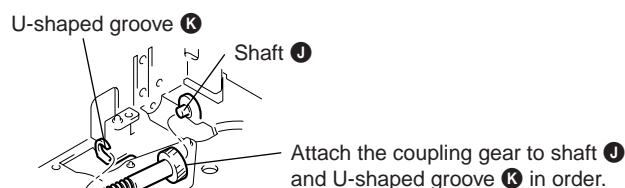

Fig. 9
- ⑤ Attach the coupling gear. After attaching, apply grease while rotating the coupling gear by 120° each time. (Fig. 9, 10)